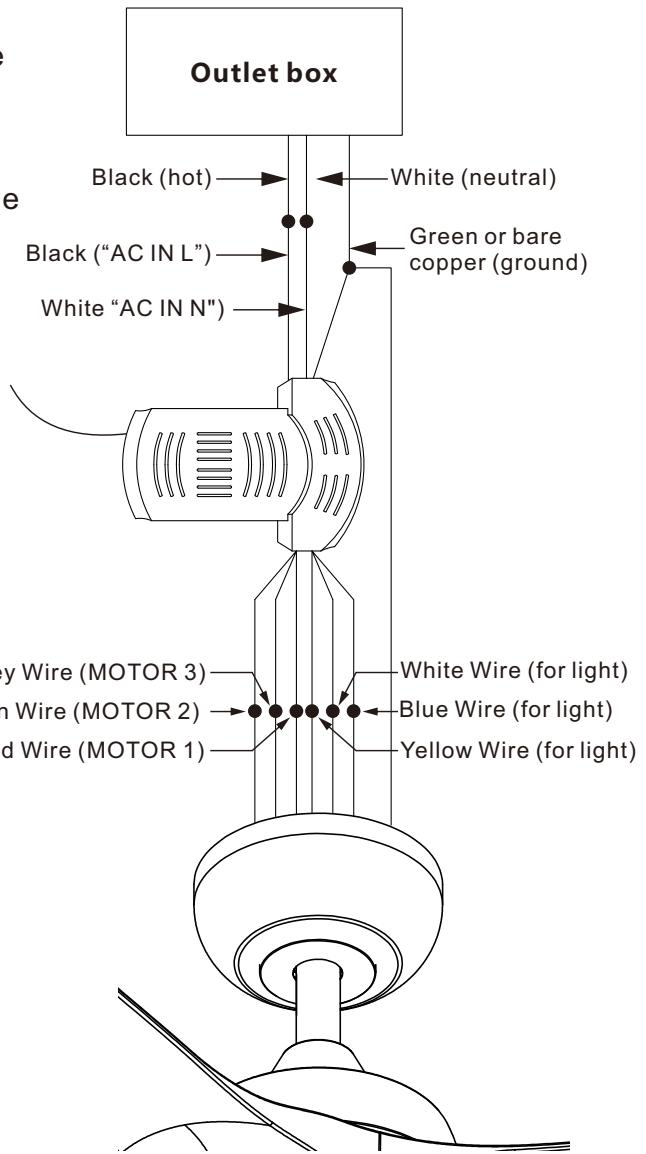

Figure 17
### **Motor to Receiver Electrical Connections:** (Fig.17)
### **Step 2. (Fig.17) Receiver to House Supply Wires Electrical Connections:**
**Step 3. (Fig.17)** If your outlet box has a ground wire (green or bare copper) connect it to the fan ground wires and the receiver ground wire; otherwise connect the hanging bracket ground wire to the fan and the receiver ground wire. Secure the wire connection with a plastic nut provided. After connecting the wires, spread them apart so that the green and white wires are on one side of the outlet box and other wires are on the other side. Carefully tuck the wire connections up into the outlet box.